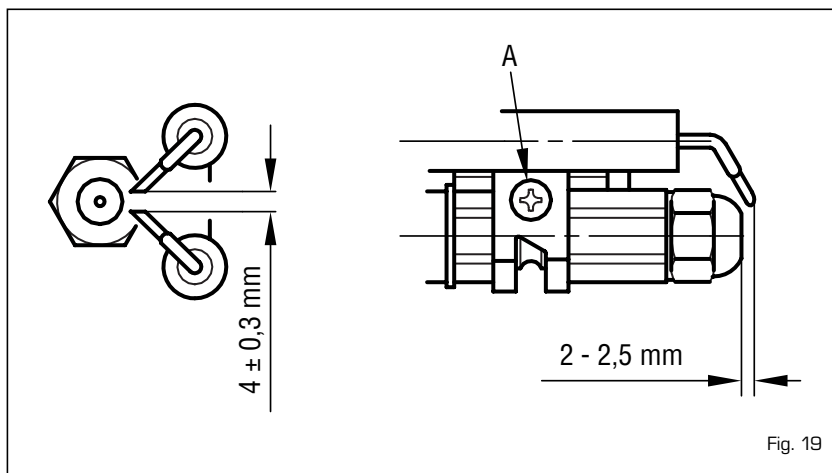

Fig. 19
4.5.2 Cleaning combustion head (fig. 19)
- Loosen the fixture screw [A fig. 19] of the electrodes support and remove it.